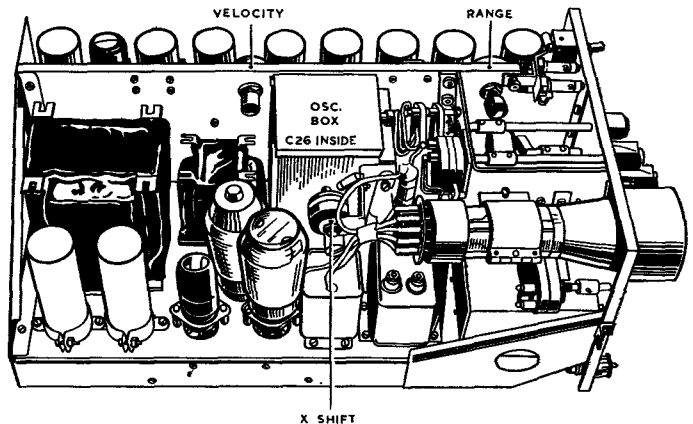

Fig. 23. Mixer unit Type I3 : interior
attenuator. Set condenser C25 to its mid-position, and tune the oscillator using C26 (*fig. 23*) so as to obtain an upward-going pulse on the monitor CRT.
- (2) Connect the RF output socket of the mixer unit to the input socket of the direct receiver using the test lead provided.
- (3) Turn the velocity control (inside mixer unit Type 13) to minimum and the range control to maximum (*fig. 23*).
- (4) Adjust the DELAY control on the front panel so that the leading edge of the test pulse is right at the end of the timebase on the display unit Type 5 display (indicating unit Type 123).
- (5) Turn the range control (inside mixer unit Type 13) until the monitor timebase finishes at the trailing edge of the test pulse.
- (6) Adjust the velocity and X-shift controls to give a monitor timebase trace about 4.5cm. long and central on the screen.
- (7) Replace the dust cover and readjust the delay control on the front panel so that the test pulse appears at about the centre of the monitor timebase trace.
- (5) Switch on the pulsed oscillator (the second warning neon should glow) and tune it to the wavemeter using the monitor display. Condenser C26 (*fig. 23*) is the main frequency control. The front panel control is for fine adjustments over a range of 7 Mc/s.
- (6) Connect the RF output socket of the pulsed oscillator to the input of the narrowing receiver with the test lead provided. Set the selector switch to B.
- (7) Adjust the oscillator attenuator to give a pulse of about half saturation on the monitor display. Tune the narrowing receiver (*para. 74*) to the test pulse; if necessary, reduce the RF output by means of the attenuator to prevent the test pulse from saturating the receiver.
- (8) Adjust the NARROWING GAIN so that 1 mm. of noise is seen on the monitor display. It is important that this noise level should not be exceeded. Adjust the attenuator to give a test pulse 1 cm. high. Do not alter this attenuator setting subsequently.
- (9) Connect the RF output of the pulsed oscillator to the input of the direct receiver and put the selector switch at C. Without altering the attenuator, tune the direct receiver and then adjust DIRECT GAIN to give a test pulse 1 cm. high.
- (10) Put the selector switch at D. Switch off the pulsed oscillator and put the maintenance switch at NORMAL. Both neons will now be extinguished and a trace will only be obtained if the IFF A-BAND key on display unit Type 5 is ON.
- (11) Remove the test leads and plug in the aerials to the receivers.